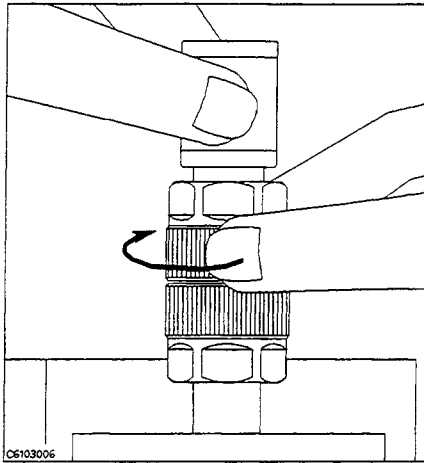

Figure 3-10.
14. Connect the 50 Ω termination on the APC-7[®] connector as shown in Figure 3-10.